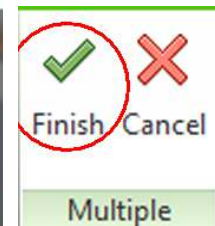

Fig. 2.3 – Finish
15. Draw a selection box (Right to Left) around all the grids → Click Finish (Fig. 2.3).